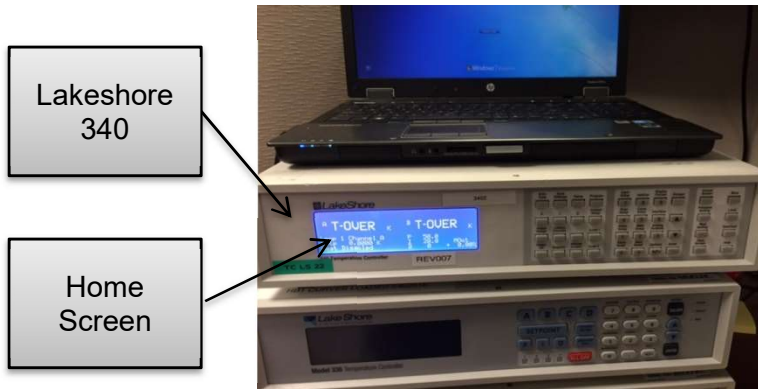

Figure 1
1.8 Press cancel screen key to return to home screen displaying temperature sensor readings (Figure 1).